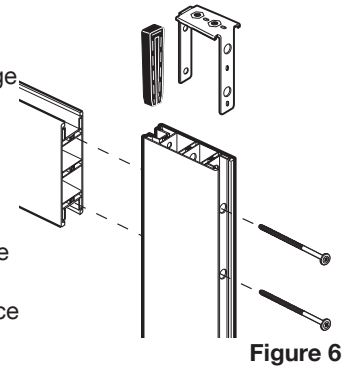

Figure 6
Take one of the Stiles (A), making sure the side with the large holes are facing outward. Insert U bracket (G) into the Top of the stile into the outside channel and the innermost channel. The side of the U clip with the larger holes should be facing the outside edge of the door. The top of the U clip will rest on the top of the stile once inserted. See Figure 6.